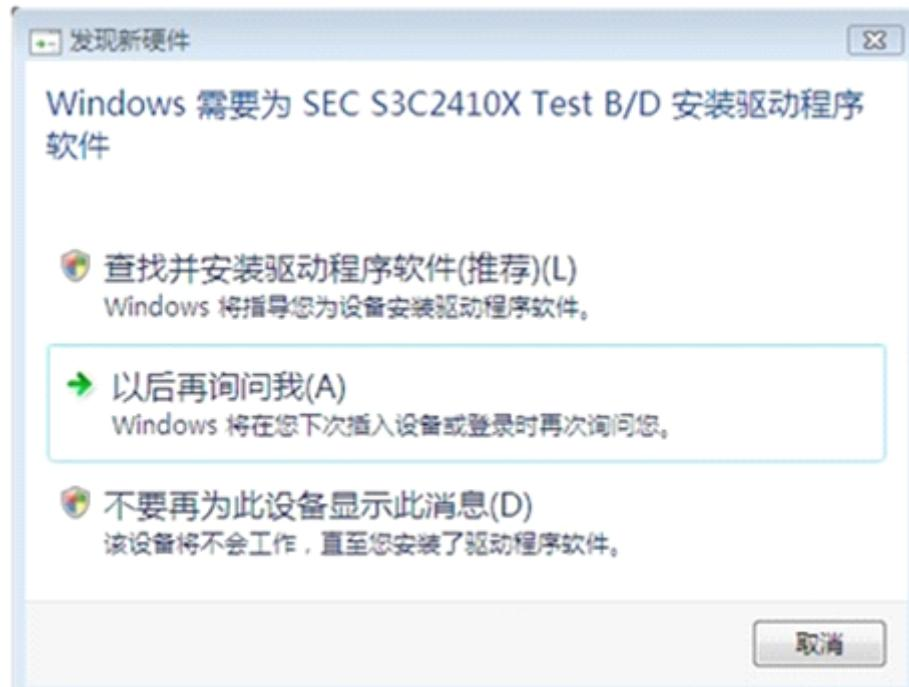

Figure 2-17: VISTA identifies the driver
- Connect the USB cable of the touch screen to the PC, and then a page as shown in Figure 2-17 will appear: